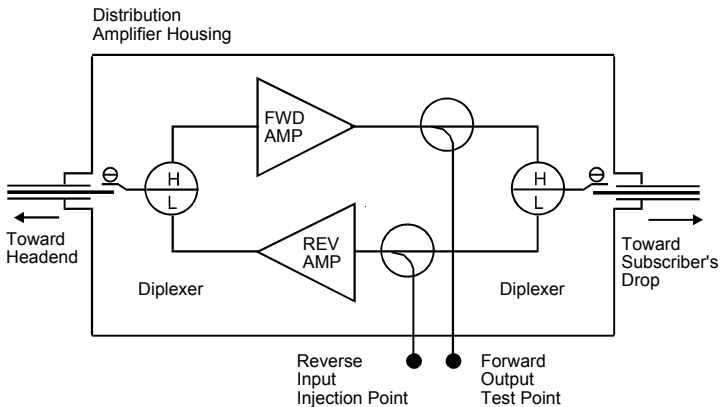

Figure 2. Dual Test Lines.
- Dual test lines (See Figure 2 below):